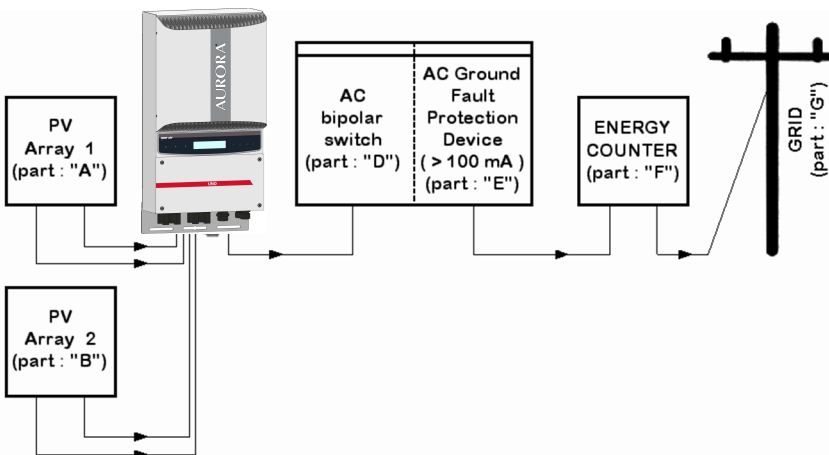

Fig. 8 - Electrical connection diagram
**STEP 1** If the inverter is connected to the power supply grid, disconnect it by opening the switch indicated as Part. "D" in Fig. 8
**Step 1:** Disconnect the inverter from the AC grid by turning off the AC switch, "part D" in Fig. 8. Also turn off the DC part by using the DC switch (integrated in -S models or external).